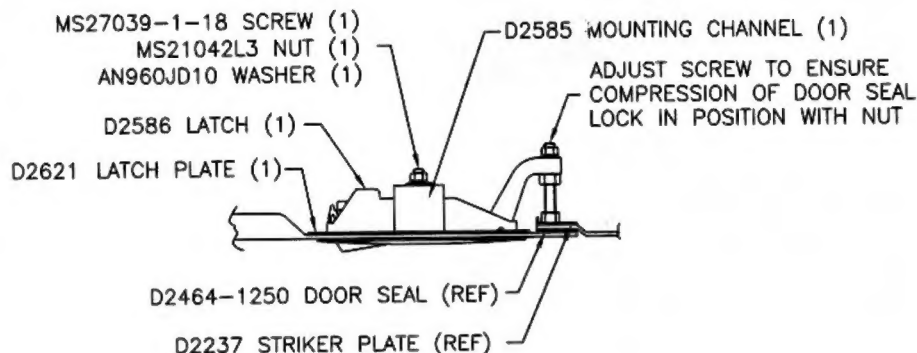

FIGURE 2. TYPICAL LATCH INSTALLATION
5. INSTALL D2586 LATCH AND ASSOCIATED HARDWARE IN ACCORDANCE WITH FIGURE 2.
8. ADJUST LATCH SCREW AS SHOWN IN FIGURE 2 TO ENSURE COMPRESSION OF DOOR SEAL. LOCK IN POSITION WITH NUT.